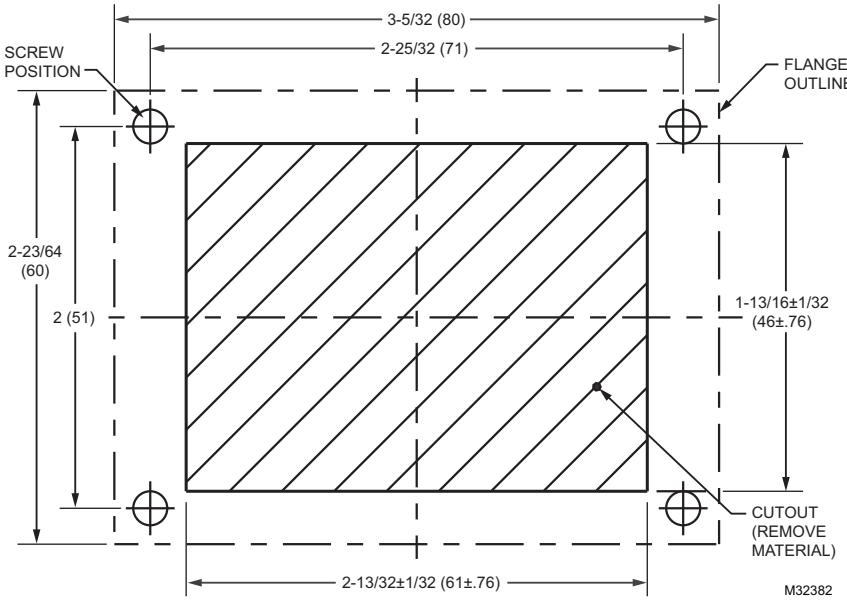

Fig. 8. Mounting Template to Scale (1 in. = 1 in.).
NOTE: See Fig. 8 on page 4 for an exact size mounting template.
The sensor is mounted in the air stream using the duct mounting kit. Use #6 or #8 screws (screws are not provided and must be obtained separately). Use the dimensions listed in the "Specifications" and the template in Fig. 8 on page 4 as a guide.
1. Use the template in Fig. 8 on page 4 to cut the access hole in the sheet metal ductwork. It is important that you use the template so that the hole in the ductwork is sized correctly to allow for the four mounting holes on the flange.
NOTE: Cut out and use the Mounting Template in Fig. 8 to make the access hole in the ductwork. The template is printed to scale where 1 inch = 1 inch.